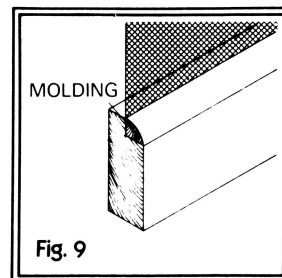

Fig. 9
5. Remove the clamps and cut away the excess screen. The slot in the frame that housed the old screen should now be covered with molding strips. Do steps 2, 3, and 4 above. Cut and place the required molding over the slot along the inside edge of the frame (fig. 9). Paint the new molding with two coats of paint.